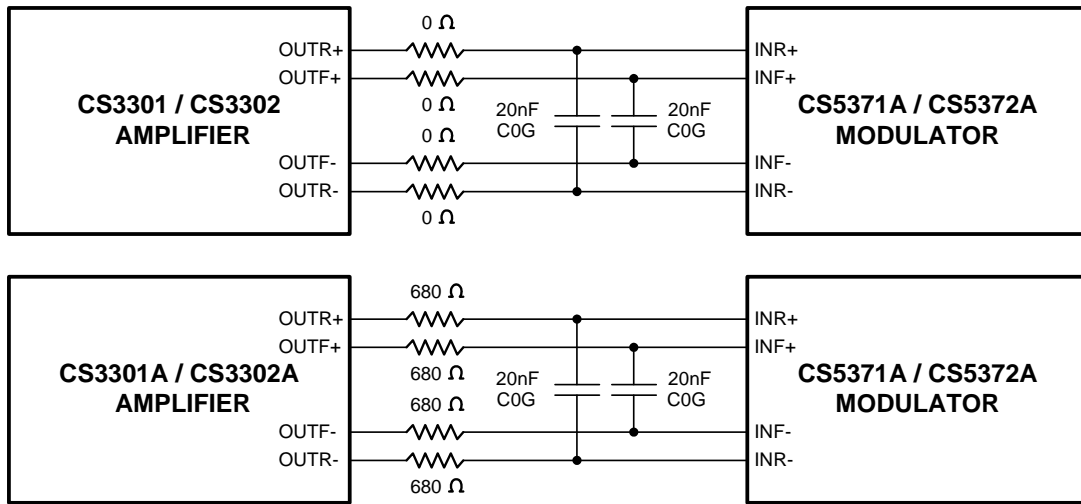

Figure 1. Anti-alias Filter Components
- Anti-alias capacitors are discrete external components and must be of good quality (C0G, NPO, poly). Poor quality capacitors will degrade total harmonic distortion (THD) performance. See Figure 1 on page 6